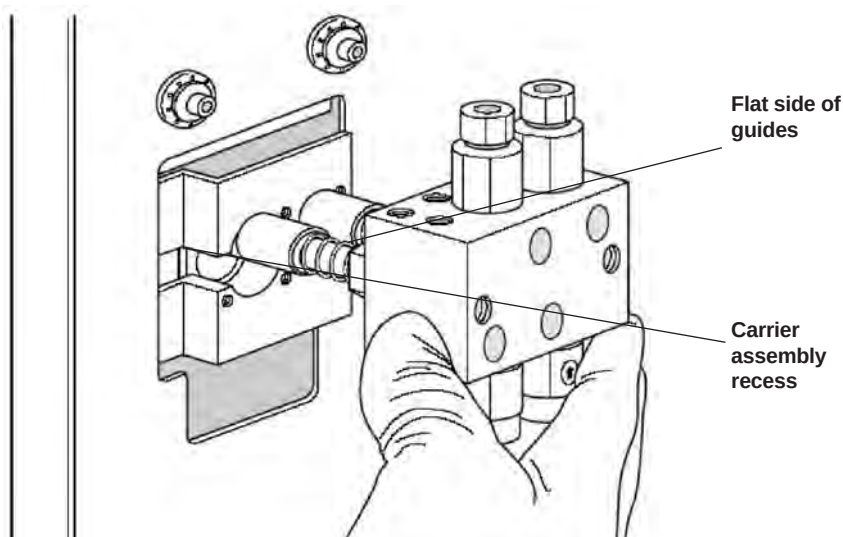

Fig. 13.12. Align the flat side of the guides with the carrier assembly recess (tubing removed for clarity).
Note: The flats on the piston carriers must be straight up and down (Figure 13.12).
17. Place the screws in the pump head, and put the pump head back in the hole in the carrier. If you have trouble getting the pump head inserted, check to see that the flats on the guides align with the flats on the carrier assembly (Figure 13.12).